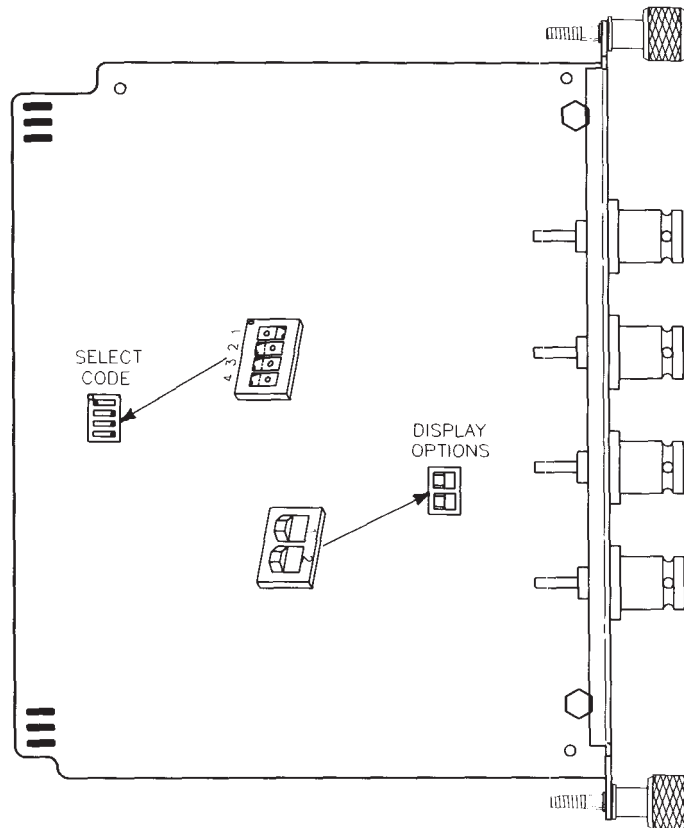

Figure 5-23.
- a. Find the set of four select code switches by referring to Figure 5-23.
- If connecting an HP 13279B Color Monitor to this interface, set option switch 1 for combined green and sync signal as shown in Figure 5-23.
- If connecting some other monitor, set option switch 1 *opposite* of that shown in Figure 5-23 if the monitor provides for a separate sync signal;
otherwise set the interface to a combined green and sync signal by setting option switch 1 as shown in Figure 5-23.
- If connecting an HP 13279B Color Monitor to this interface, set option switch 2 to 24.8 kHz horizontal scan as shown in Figure 5-23.
- If connecting some other monitor, set option switch 2 *opposite* of that shown in Figure 5-23 if the monitor has a 15.75 kHz horizontal scan; set option switch 2 as shown in Figure 5-23 if the monitor has a 24.8 kHz scan.